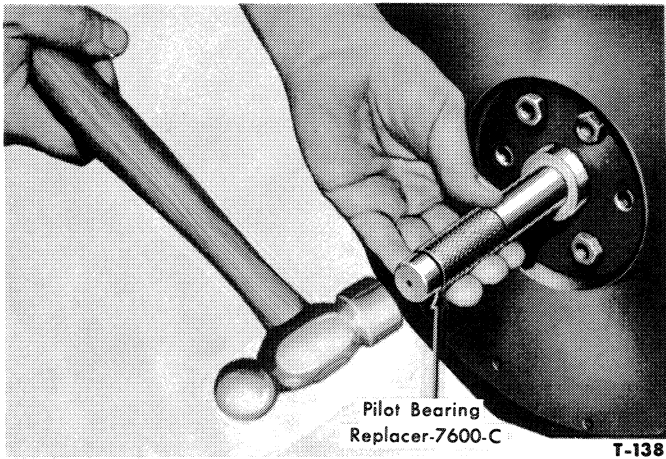

Figure 62—Installing Clutch Pilot Bearing
2. Install the bearing with Clutch Pilot Bearing Replaced 7600-C, see Figure 62.